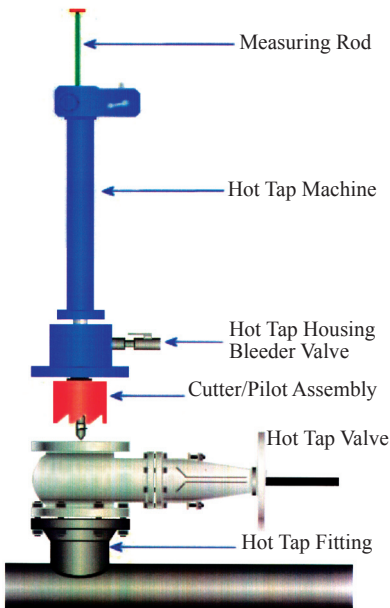

Figure 1. Example of a Typical Tapping Setup
- Preparation of a hot tap procedure including a complete design review and drawing review of the line to be welded (see Figure 1). The calculation sheet shall be attached to the Hot Work Permit.